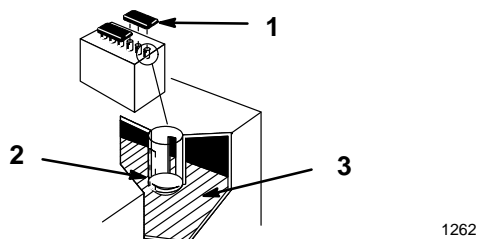

Figure 37
2. Open covers to see into the cells. The electrolyte must be up to the lower part of the tube (Fig. 37). Do not allow the electrolyte to get below the plates. (Fig. 37).
2. Lift off the filler caps (Fig. 37).
3. Slowly pour distilled water into each battery cell until the level is up to the lower part of the tube (Fig. 37).